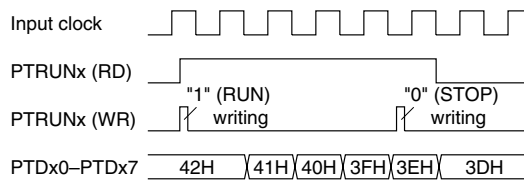

Fig. 5.2.1 Timing chart for RUN/STOP control
- (2) The programmable timer actually enters RUN/STOP status in synchronization with the falling edge of the input clock after writing to the PTRUN_x register. Consequently, when "0" is written to the PTRUN_x register, the timer enters STOP status at the point where the counter is decremented (-1). The PTRUN_x register maintains "1" for reading until the timer actually stops. Figure 5.2.1 shows the timing chart for the RUN/STOP control.